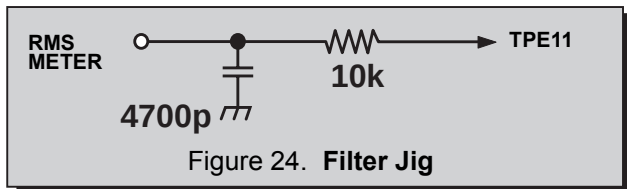

Figure 24. Filter Jig
1. Connect an RMS meter with filter jig as shown in Fig. 24.